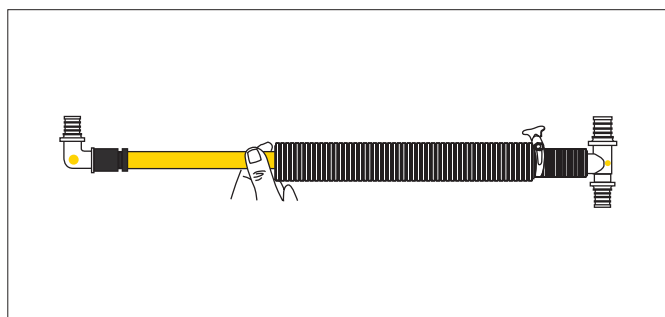

Fig. A2-13 Second joint completed - Larger RAUGUARD pushed back over smaller RAUGUARD
- Feed the larger RAUGUARD onto the carrier pipe and over the smaller RAUGUARD until sufficient carrier pipe length is exposed (at least three times the compression sleeve length) to ensure a safe pipe expansion (see Figure A2-13).